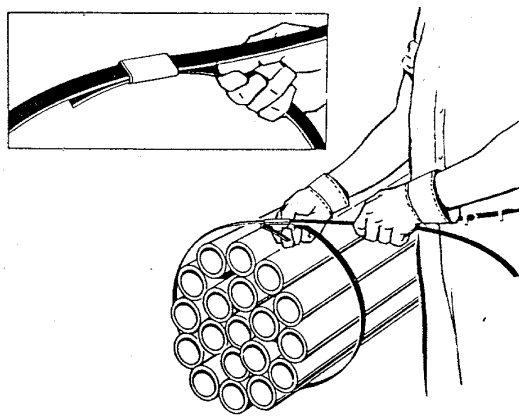

Figure 1
1. Thread strap through seal. Then encircle bundle and thread strap end through seal as shown in inset. Bend strap end back sharply under seal (about 2 1/2 inches). Pull out slack. (See figure 1.)